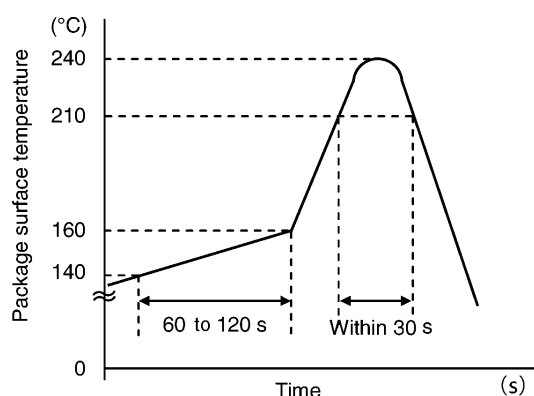
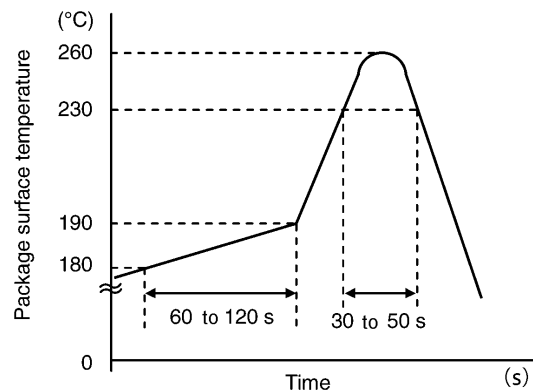

Fig. 9.1.2 Eutectic Recommended Temperature Profile
Fig. 9.1.3 Lead (Pb)-Free Recommended Temperature Profile
- (2) Figure 9.1.2 shows the recommended temperature profile for using eutectic solder. Figure 9.1.3 shows the recommended temperature profile for using lead (Pb)-free solder. Complete the infrared ray reflow process with a maximum package surface temperature of 260°C, within 30 to 50 seconds when a package surface temperature is 230°C or higher (See Figure 9.1.3).
For an example of a recommended temperature profile, refer to Figures 9.1.2 and 9.1.3.